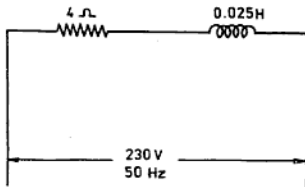

Fig. RQ 11.4
- 11.4 Explain what do you understand by the term impedance of a circuit. Calculate the current taken, power input and angle of lag for the circuit in Fig. RQ 11.4. (NCVT 1970 W/man) (Ans. 26.13 A , 2731 W , 62.58°)